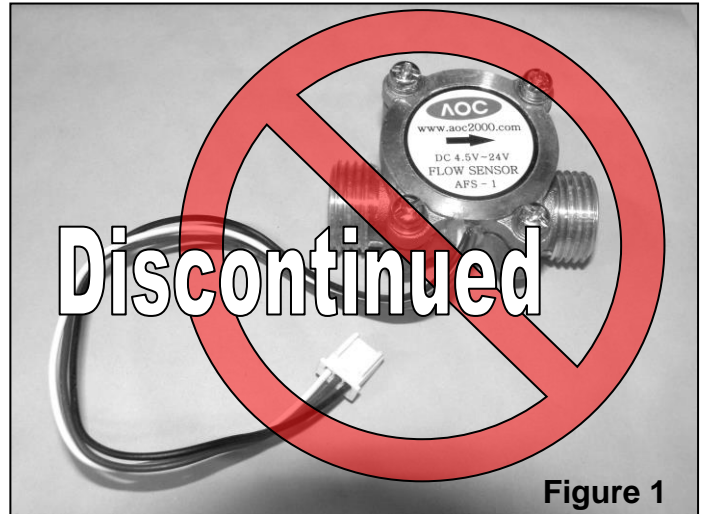
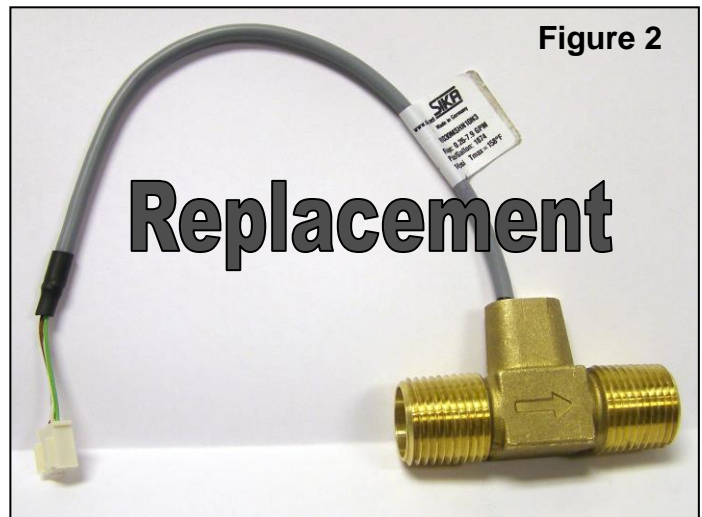

Figure 1
Figure 2
NOTICE Replacement Flow Sensor - The AOC Flow Meter (**Figure 1**) has been discontinued. Effective immediately the Sika Flow Sensor (**Figure 2**) will be its direct replacement.
- 1 Flow Sensor (**Figure 2**)
- 5) Disconnect the flow sensor electrical connector and remove the older Flow Meter AOC AFS-1 (**Figure 1**).